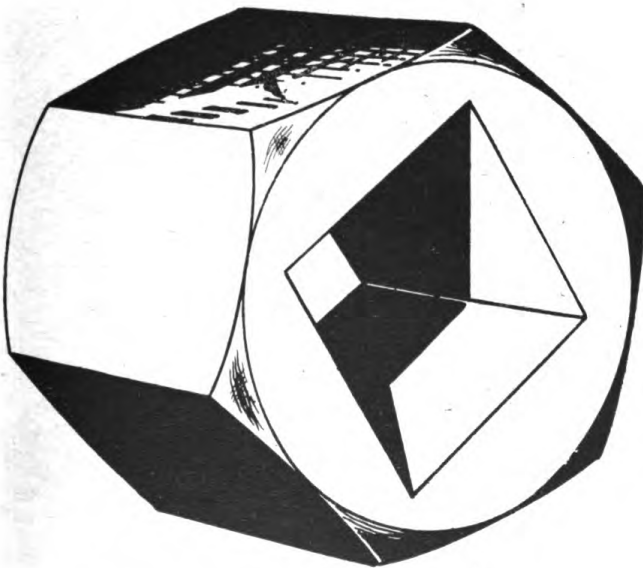

Figure 9. Internal wrenching adapter.
(6) *Internal wrenching adapters* are used for the same purpose as Allen wrenches. One type is shown in figure 9. This type has a  $\frac{1}{2}$ -inch